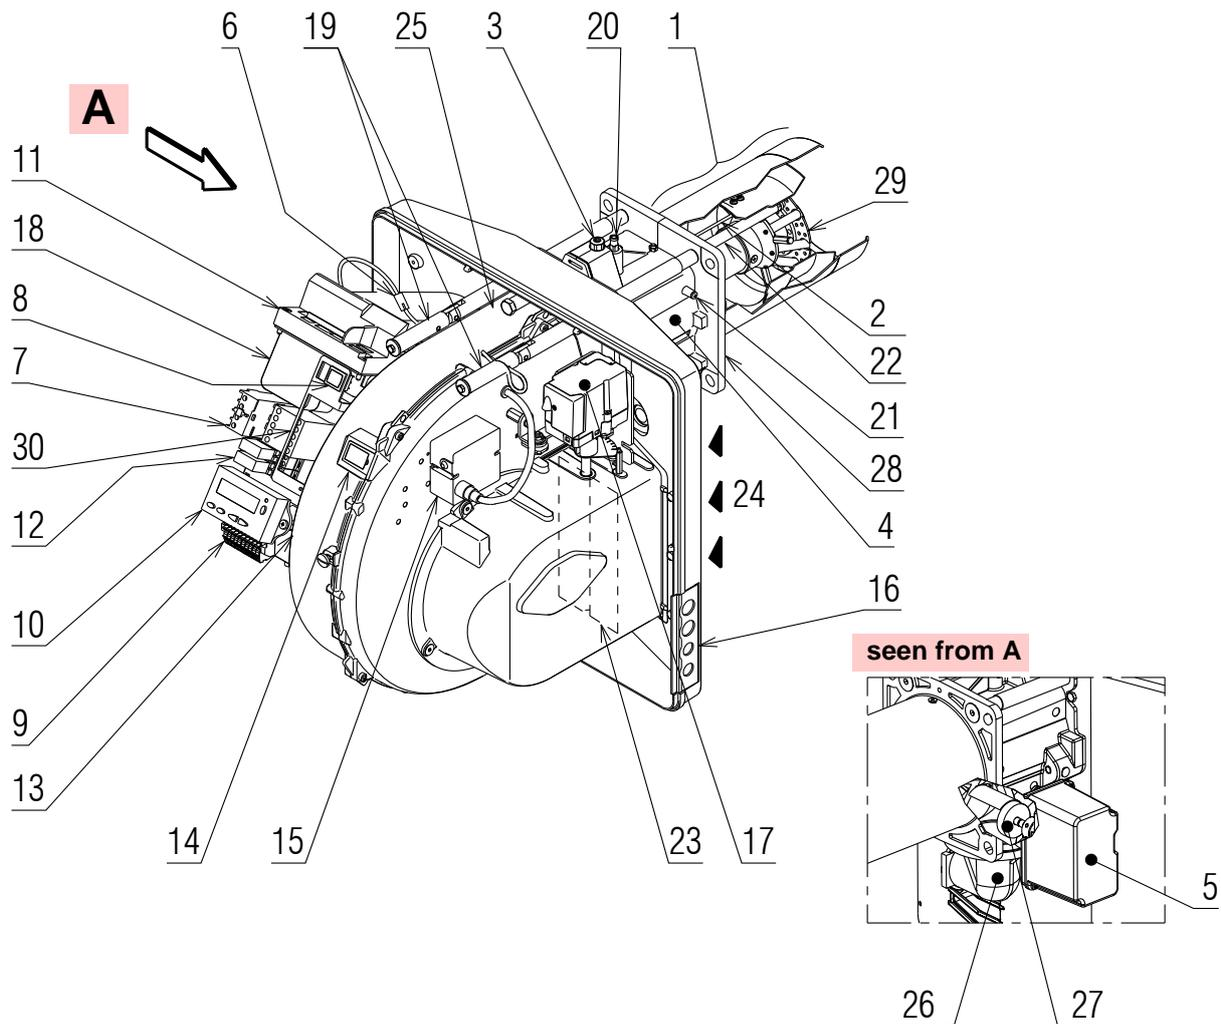

Fig. 5
(2) Gas pressure on the pipe coupling test point 20) (Fig. 5) with zero pressure in the combustion chamber and at maximum burner output.